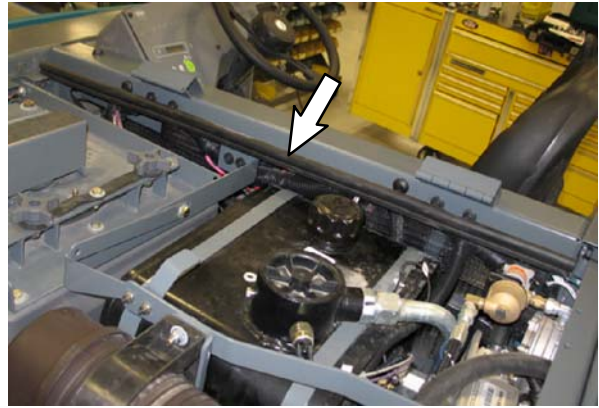

FIG. 52
67. Install a 1020 mm (40 in) rubber seal (98) onto the machine. (Fig. 52)